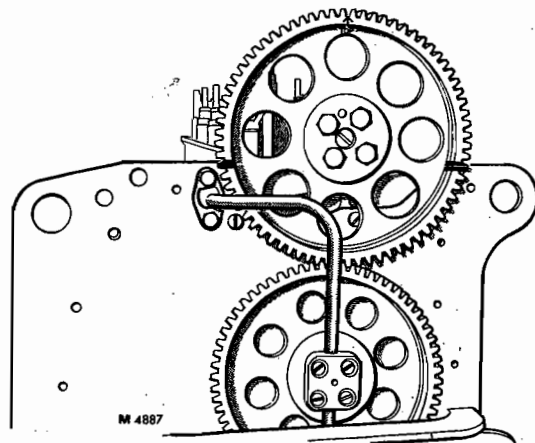

FIG. 3 CAMSHAFT GEAR TIMING MARKS
5. Lubricate camshaft bearings with clean engine oil and place camshaft in position with timing marks on gear in line with top face of tappet block, Fig. 3.